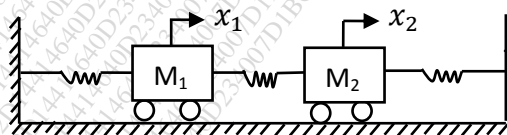

Fig 02
- Q.3 Derive the equation of motion for the system shown in fig 02 13